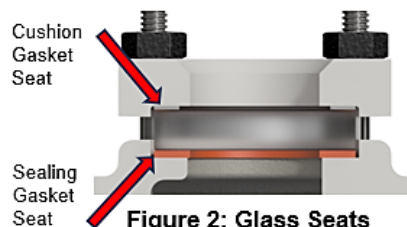

Figure 2: Glass Seats
1. The glass seating surfaces in the body and retainer (Figure 2) must be carefully cleaned and checked to ensure there are no pieces of old gasket material, chips, dirt or other material on the surfaces. Foreign particles left on the surface may cause local stresses in the glass, and may cause failure.
4. The sealing gasket, the thicker and often the softer gasket, is placed on the process side of the glass, in the body counterbore, forming the glass seating surface. A cushion gasket must be placed between the glass and the retainer. Ensure that all surfaces in the body and retainers are clean and assemble the gaskets and glass into their seats. Ensure the gaskets are centered and are completely within the counterbore provided. Care must be exercised in placing the glass in the seat so that the edges will not be chipped. Place the cushion gasket and retainer over the glass, using care that the glass and gasket are completely seated in the counterbore. Place a small amount anti-sieze on each fastener before threading on the nuts. Finger tighten fasteners, and slide the glass from side to side, or rotate it in its seat, until all parts are aligned and seated properly. (Figure 2)